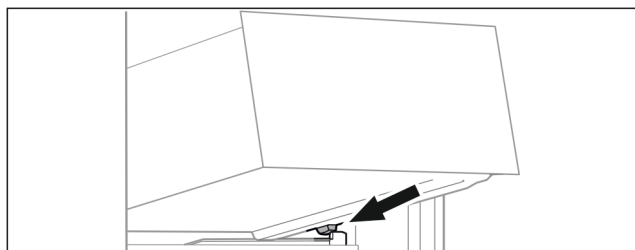

Fig. 134
- ▶ Place drawer at an angle behind the stoppers on the moulded rib. (see Fig. 134)